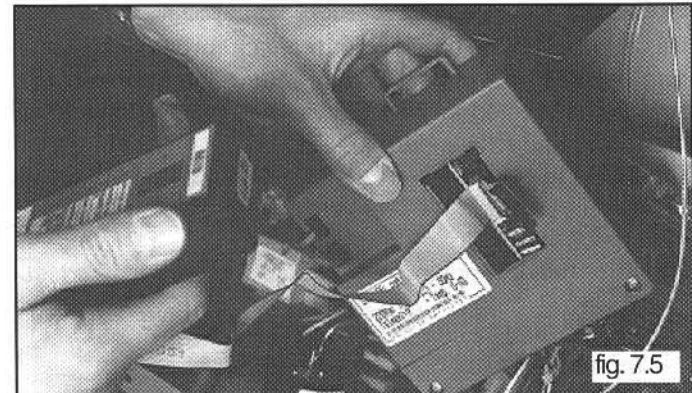

fig. 7.5
- 4 Connect the grey connector to the electronic PCB (see fig.7.5).